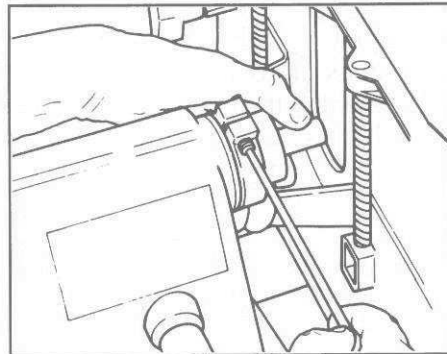

Figure 11. Mounting the lower saw guard.
3. Mount the lower saw guard on the quill so that the stop screw below the collar butts up against the stop collar on the quill. Align the ridge on the power plant with the slot in the collar. Tighten the screw on the collar. (See Figure 11.) Loosen the two knobs and slide the guard cover to the right.